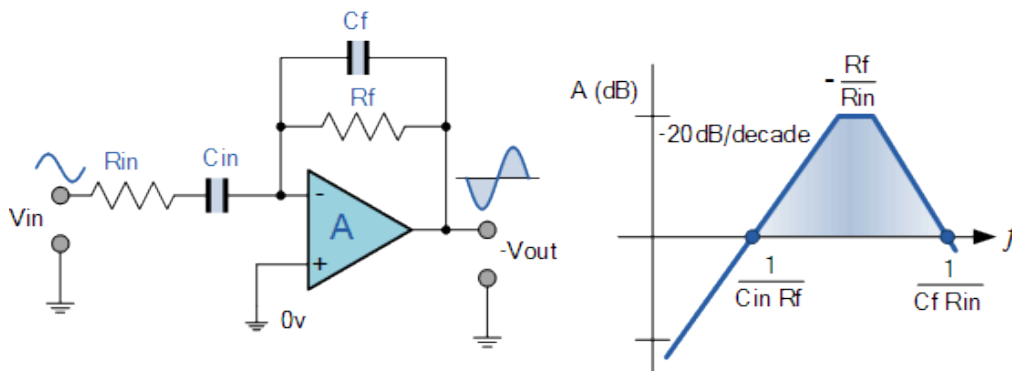

Fig. 4: Practical differentiator
For an ideal differentiator, the gain increases as frequency increases. Thus, at some higher frequencies, the differentiator may become unstable and cause oscillations which results in noise. These problems can be avoided or corrected in a practical differentiator circuit which uses a resistor R_{in} in series with the input capacitor C_{in} (or C_1) and a capacitor C_f in parallel with the feedback resistor R_f , as shown in the figure 4.
1. Connect the circuit as per the circuit diagram fig 4.